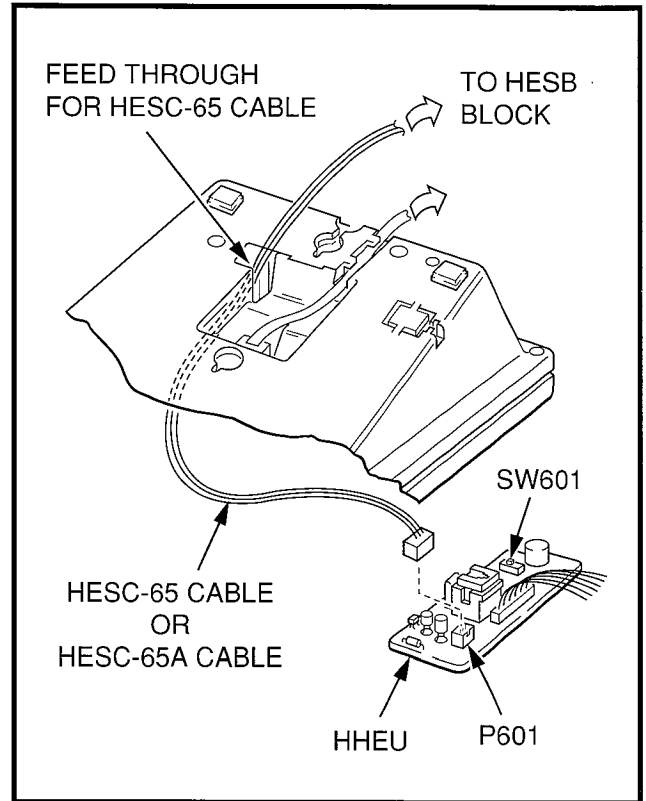

FIGURE 7-4—HESC-65 CABLING
- 4A) Connect the HESC-65 or HESC-65A cable (either one) to **P601** of the HHEU if the Loud Ringing Bell option is required (see Figure 7-4), and refer to HESB Option Installation, Section **200-096-208**.